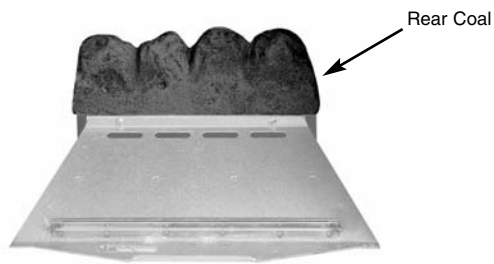

Fig. 24
1. Place the rear coal on the rear coal retainer ledge in a central position (Fig. 24).